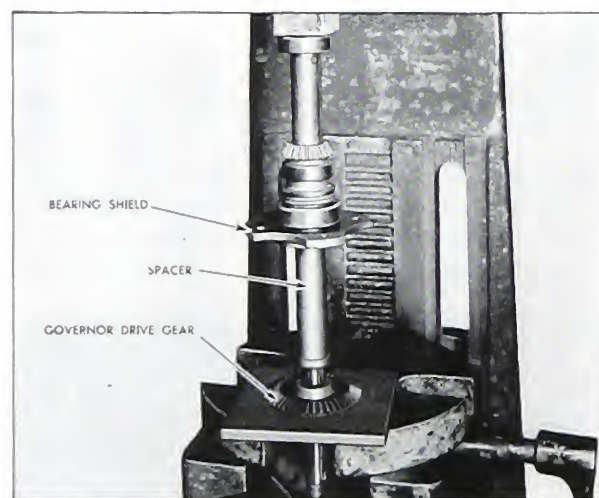

Fig. 5-124. Bearing shield, spacer and governor drive gear
2. Place the governor drive gear over the shaft with the keys and keyway indexed. The drive gear teeth must be toward the cam roller bearing. With the unit resting on the drive gear shoulder, press the shaft tight against the spacer from the gear pump end of the shaft. Fig. 5-124.